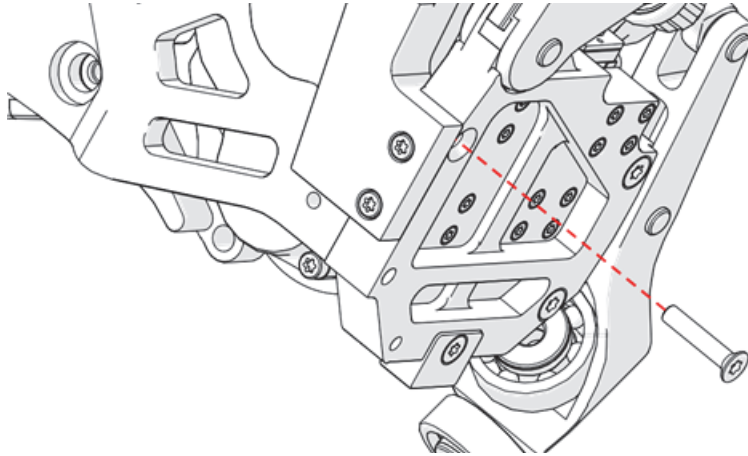

Figure 2-28 Remove the screw
8. Remove the screw indicated in Figure 2-28 on page 103 from the carriage.